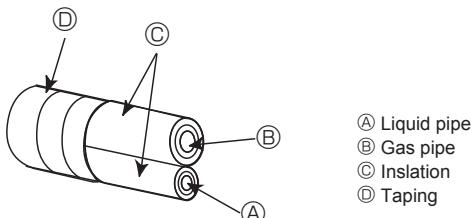
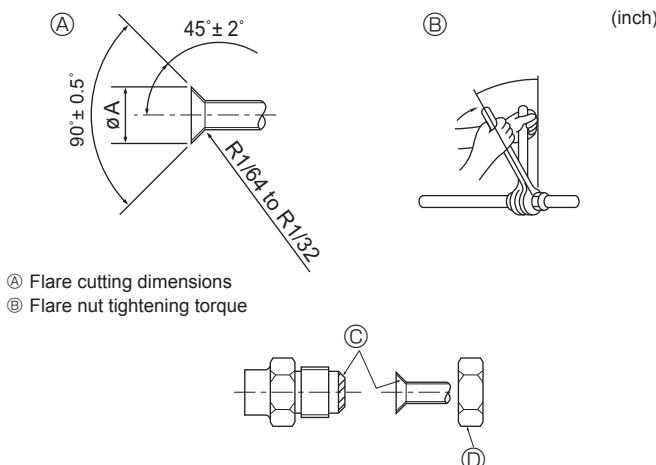

Fig. 4-1
Fig. 4-2
Ⓐ (Fig. 4-1)
Ⓑ (Fig. 4-1)
4.2. Connecting pipes (Fig. 4-1) (Fig. 4-2)
When commercially available copper pipes are used, insulate both the liquid and gas pipes separately with commercially available insulation materials (heat-resistant to 100 °C, 212 °F or more, thickness of 12 mm, 1/2 inch or more). (Fig. 4-1)
- The indoor parts of the drain pipe should be wrapped with polyethylene foam insulation materials (specific gravity of 0.03, thickness of 9 mm, 23/64 inch or more). [Fig. 4-2]